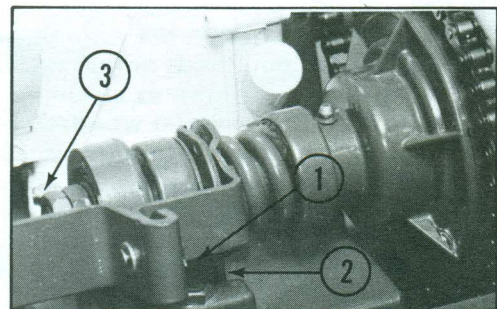

FIGURE 4
- Loosen two bolts (Item 1 Figure 4) holding the bearing block (Item 2 Figure 4).
- Loosen 1" jam nut (Item 3 Figure 4) on end of clutch shaft.
- IV. **CLUTCH MAINTENANCE** In addition to adjustments, the clutch assembly must be properly maintained so you may be assured that the mower is operating safely and at peak efficiency. Maintenance includes regular lubrication of all moving parts of the clutch assembly, in addition to regular visual inspections of the entire assembly in order to insure that, among other things, the bearing block legs (Item 2 Figure 4) are secure and not worn. If any irregularity exists with any portion of the clutch assembly, **DO NOT OPERATE THE MOWER**. Instead, immediately take the mower to your nearest factory authorized Tru-Cut service dealer for necessary repairs and service.